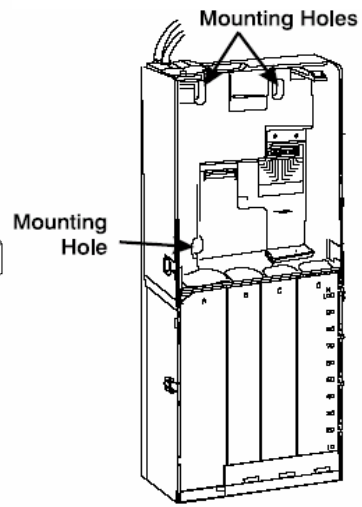

figure 2-3
3. With the acceptor removed, set the mounting holes in the back of the changer housing over the mounting screws in the vendor. Tighten snugly (see figure 2.3).